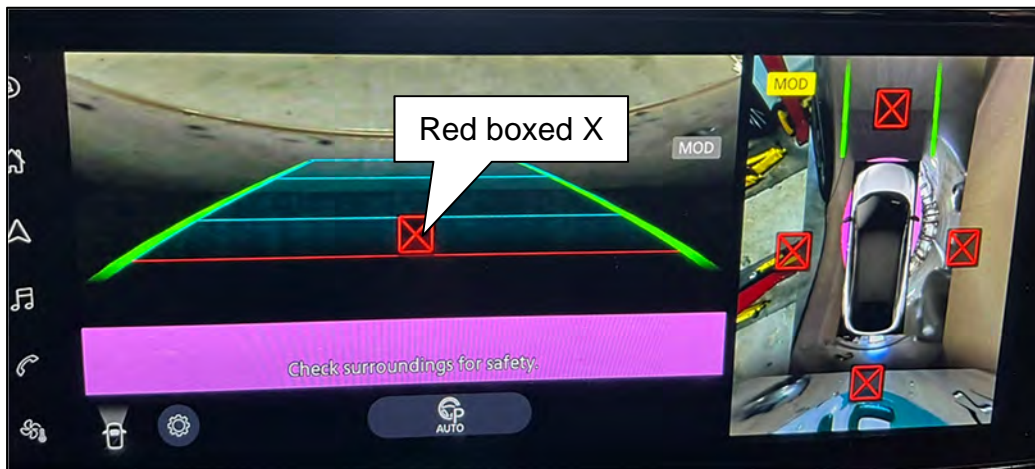

Figure 18
- HINT:** All four (4) cameras in Figure 18 require calibration.